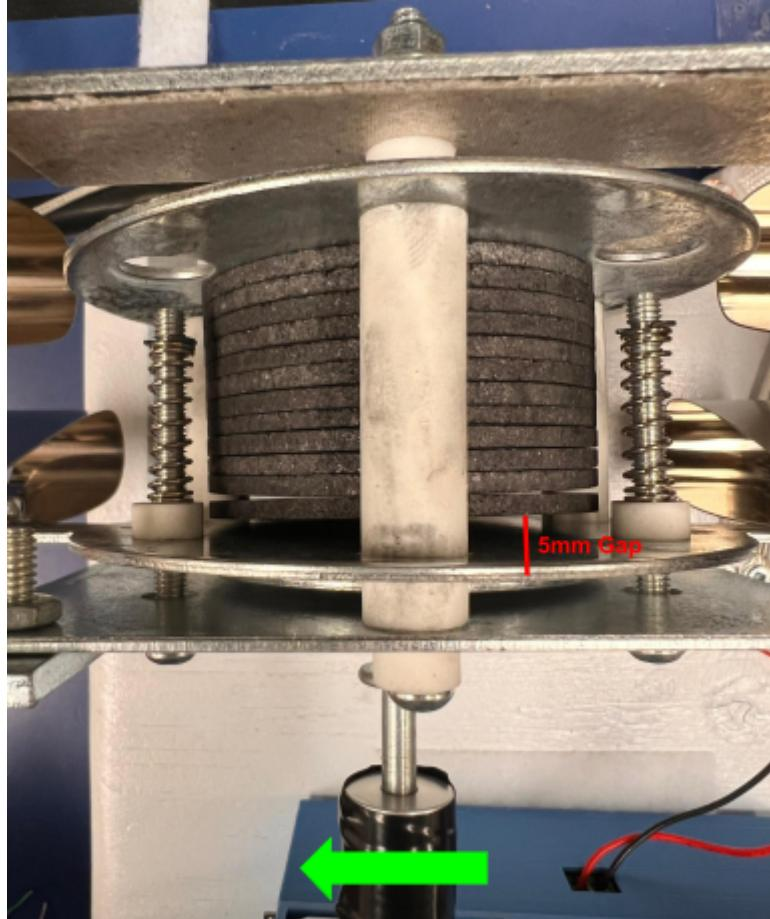

Figure 1.13: Rotate Carbon Pile Counterclockwise (JL)
Before connecting the battery, rotate the carbon pile knob counterclockwise using the coupler as shown in figure 1.13. There is a visible gap between the carbon pile disks. This step is critical. If the disks are not separated, connecting the battery could result in a spark that poses a safety hazard (JL).